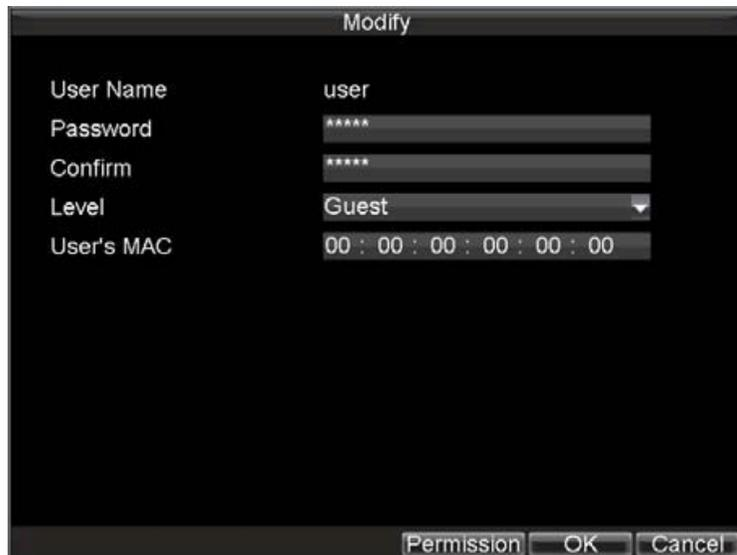

Figure 14.9.
- 3) Click the *Modify* button to enter the Modify menu, shown in Figure 14.9.